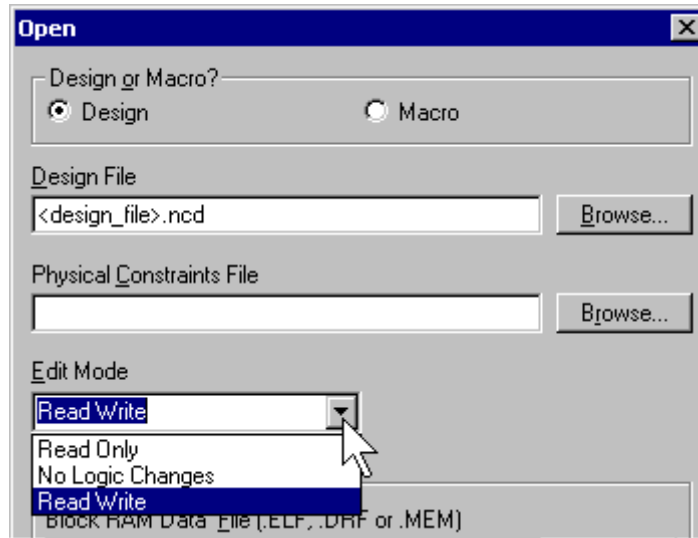

Figure 6: Enable User Editing in FPGA Editor
- Select **File** → **Open**. Select the \*.ncd file for the completed design. Set the **Edit Mode** to "Read Write" mode as shown in Figure 6.